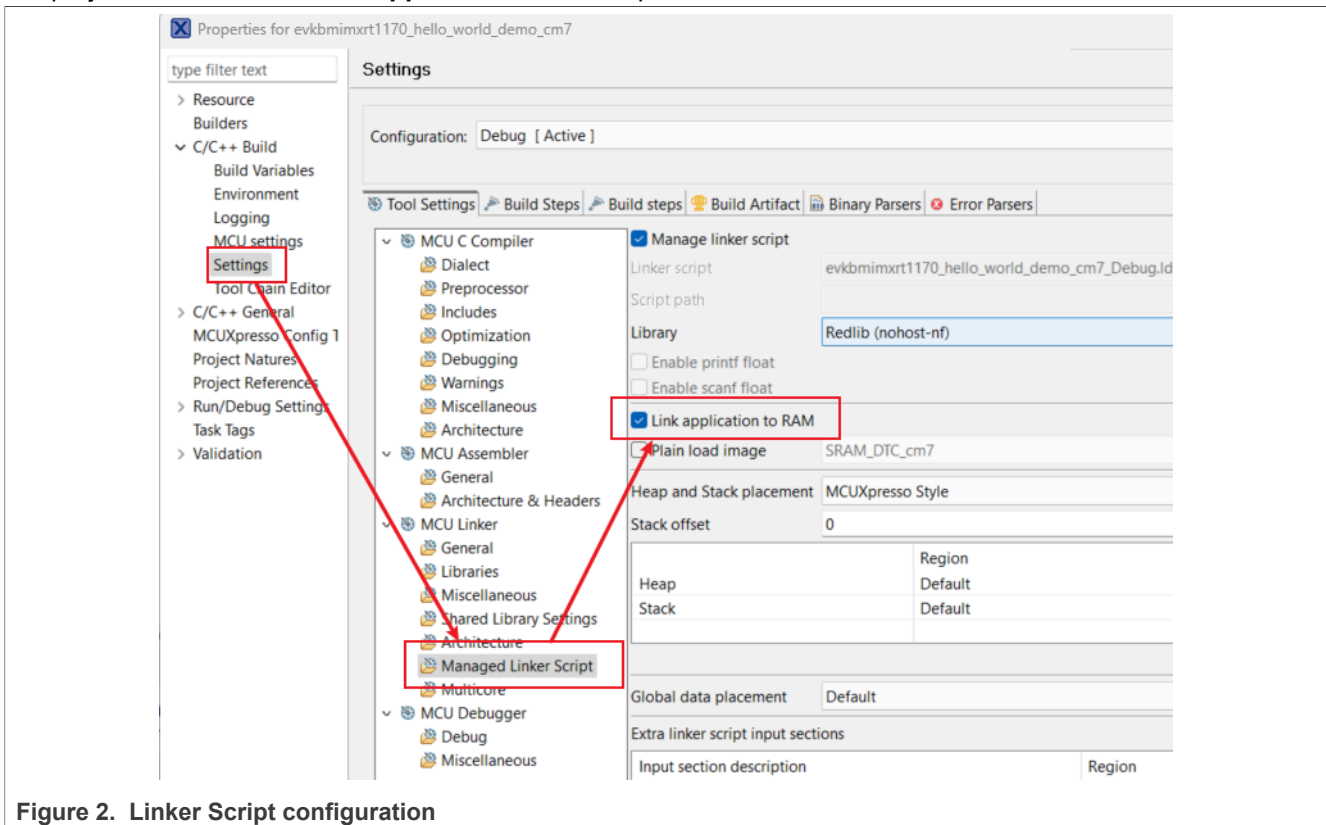

Figure 2. Linker Script configuration
1. Import a `hello_world` project in MCUXpresso IDE. As shown in Figure 2, open the **Settings** tab of the project and check the **Link application to RAM** option.